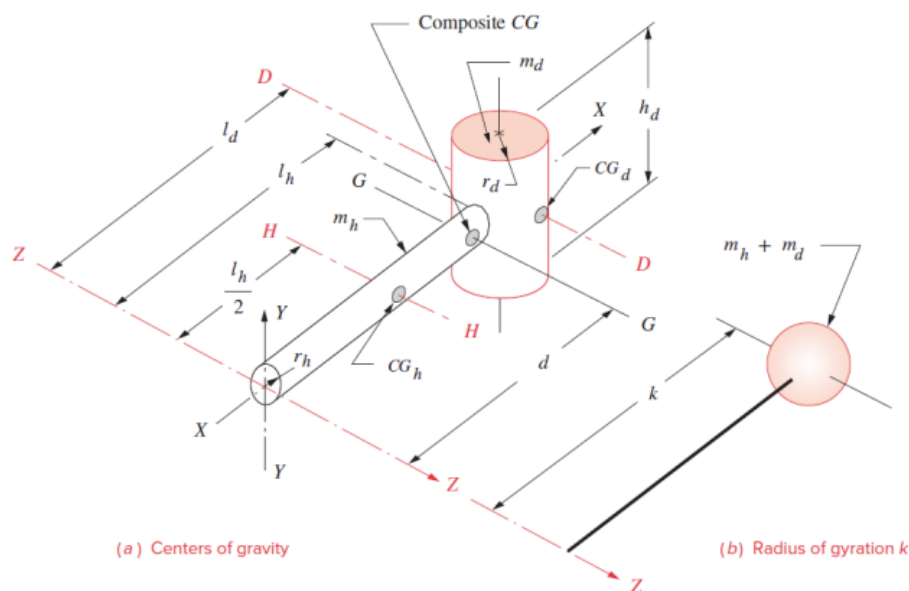

FIGURE 10-2
***†10-1** The mallet shown in Figure 10-2 has the following specifications: The steel head has a 1.25-in diameter and is 3.5 in tall; the wood handle is 1.5-in diameter and 10 in long and necks down to 3/4 in wide where it enters the head. Find the location of its composite CG, and its moment of inertia and radius of gyration about axis ZZ. Assume the wood has a density equal to 0.9 times that of water.